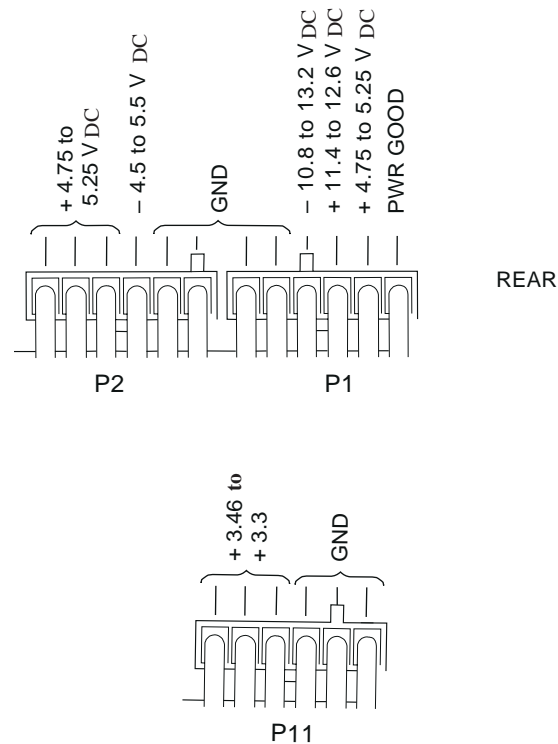

Figure 8-1. AC Power Supply Voltages
- For ac power supply voltages, see Figure 8-1